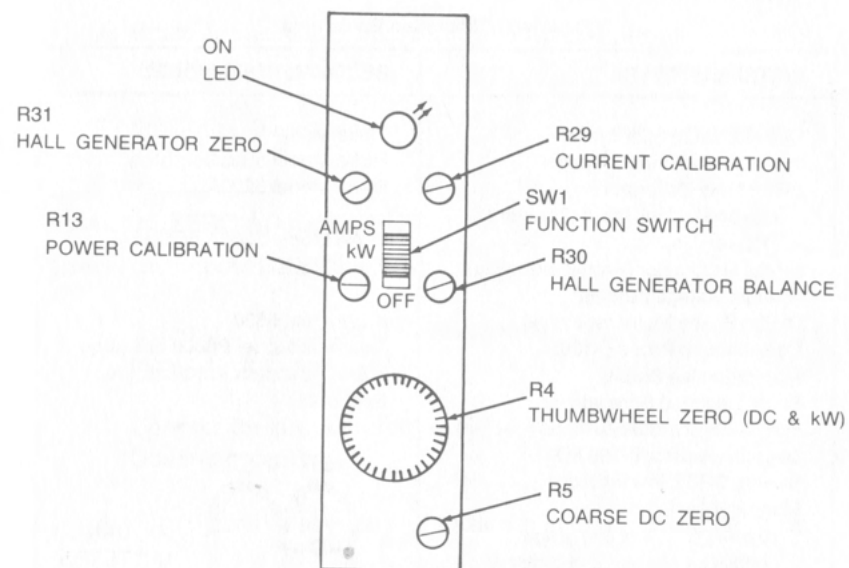

Figure 4-2. Location of Adjustments
Complete calibration of the 80i-kW is done by adjusting the five potentiometers shown in Figure 4-2. The adjustments are made through openings in the case, which are exposed by removing the main decal.
- Remove the main decal to gain access to the calibration adjustments. (See Figure 4-2.)